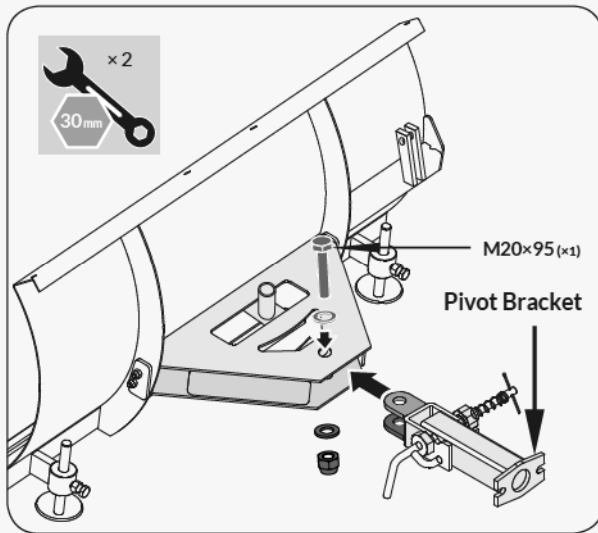

Figure 3b
2. Position the pivot bracket inside the mounting bracket and align with mounting bracket holes. Secure with M20×95 hex bolt, washers and nut. (See **Figure 3b**)